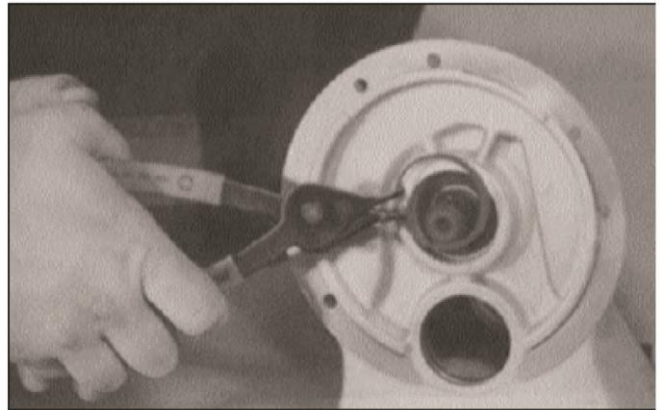
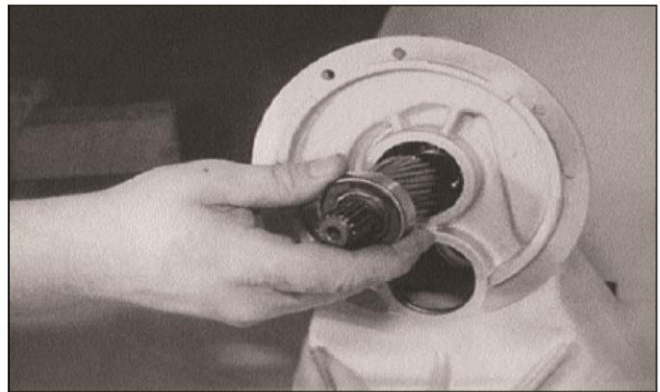

Figure 7-17
Figure 7-18
16. Repeat steps 1-15 for intermediate bearing on opposite side. If resistance is encountered, a slide hammer may be required. See Figure 7-18.
17. Remove oil seal (30 not shown) and snap ring (16) from
input shaft bore (12). See Figure 7-17.
4. Install input shaft (12). Bearings (13, 15) and shaft should slide easily into housing. If resistance is encountered, use a plastic or leather mallet to tap shaft into position. See Figure 7-18.